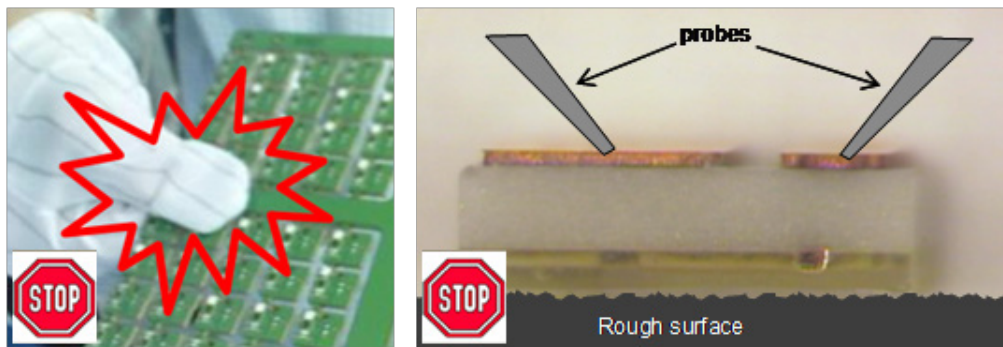

Figure 5. Board handling.
- Do not touch the top surface with fingers or apply any pressure to it when handling finished boards containing LUXEON F. In addition, do not put any boards with LUXEON F emitters top side down on a surface for probing. The surface of a workstation may be rough or contaminated and may damage the silicone overcoat layer. Any pressure applied during probing may potentially damage this layer (See Figure 5).